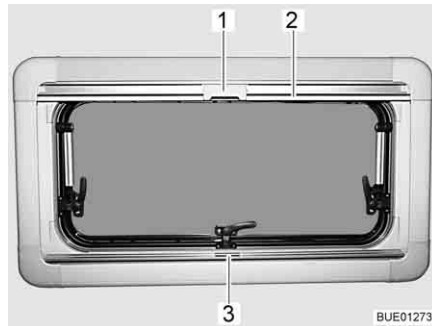

Fig. 71 Hinged window
Closing: ■ Grip the Roman shade using the holding bar (Fig. 71,3), pull it from the bottom to the top and then release it at the desired height. The Roman shade will stay at this height.
Closing: ■ Pull the insect screen down using the holding bar (Fig. 71,2), until it touches the holding bar of the Roman shade (Fig. 71,3).
■ Clip the catch (Fig. 71,1) on the insect screen into the handle of the Roman shade.
Opening: ■ Push the catch (Fig. 71,1) on the insect screen inwards.
■ Move the insect screen back slowly on the holding bar (Fig. 71,2).